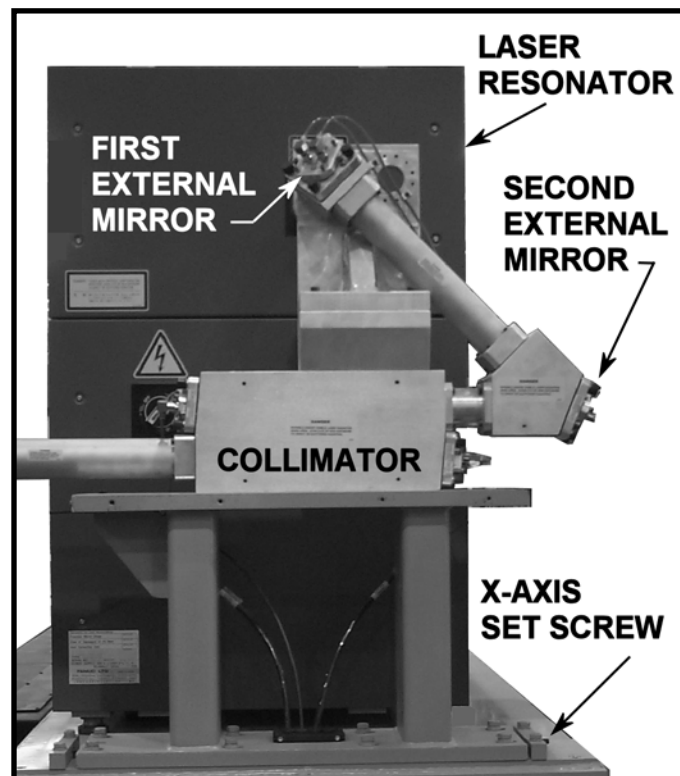
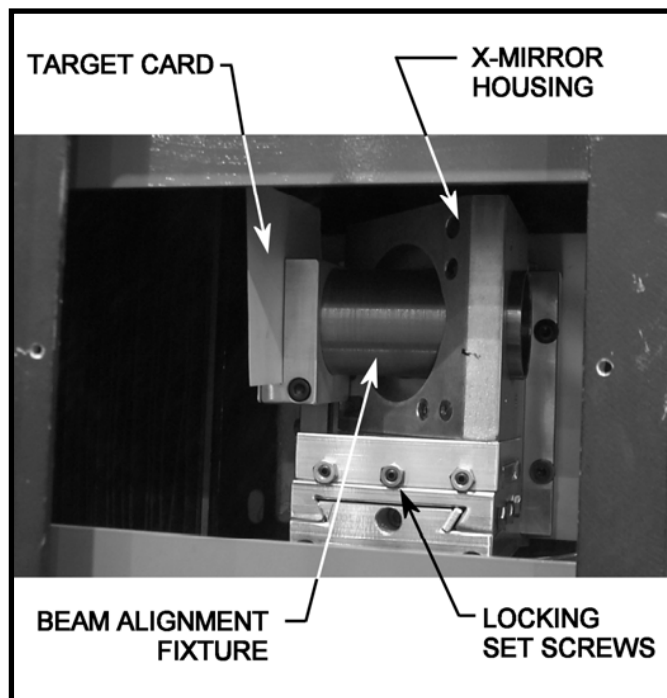

FIGURE 9-13 Mirror mount and Collimator assembly
FIGURE 9-20 X-Axis alignment
Position adjustments are made by sliding the mirror mount assembly (See Figure 9-13) or sliding the mirror housing in a dovetail support (See Figure 9-20).
The first and second external mirrors are mounted to the same structure as the collimator. The combined assembly is adjusted in the X-axis direction using setscrews located where the structure mounts to the resonator base. See Figure 9-13.
1. Remove and inspect the first external mirror assembly (mirror cap, mirror and mirror mount). See Figure 9-13. Clean if necessary.
Horizontal Adjustment - To move the first external mirror housing along the X axis, loosen the bolts that fasten the collimator support assembly to the machine frame, and then adjust the setscrews to slide the collimator support assembly. See Figure 9-13. Adjust the setscrews at both ends of the base.
4. Insert the alignment fixture and target card in the moving X-mirror housing. See Figure 9-20.